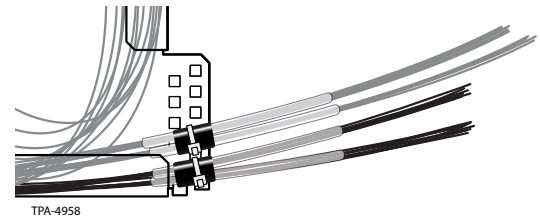

Figure 9
Alternatively, (for OSE-ST-3TQ tray applications) the ribbon fiber can be secured using clear transport tubing as shown in Figure 9.
- Group the incoming tubes into two sets of two tubes (the first being the incoming pair, and the second being the outgoing) as shown in Figure 9.
- Secure the tubes to the tray using cable ties (Figure 9).